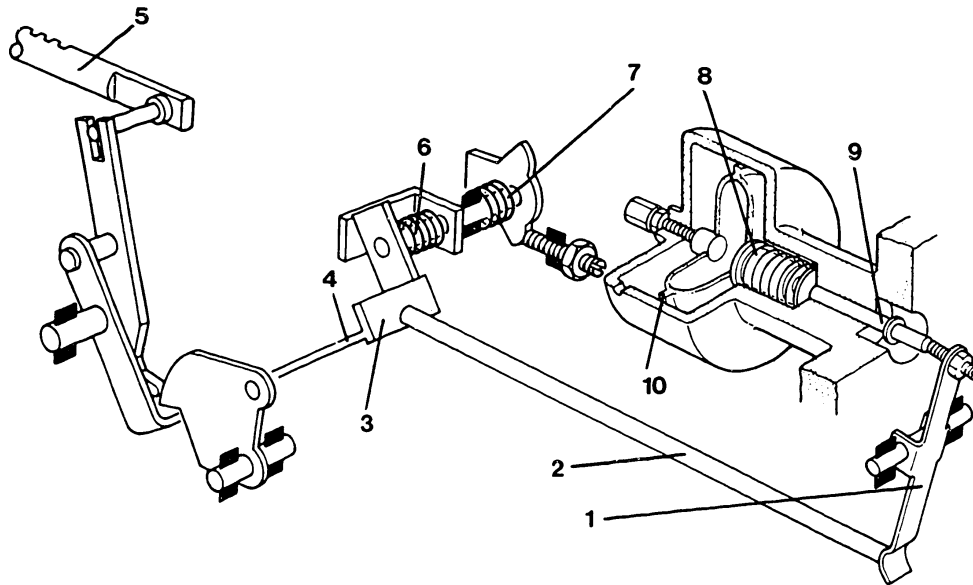
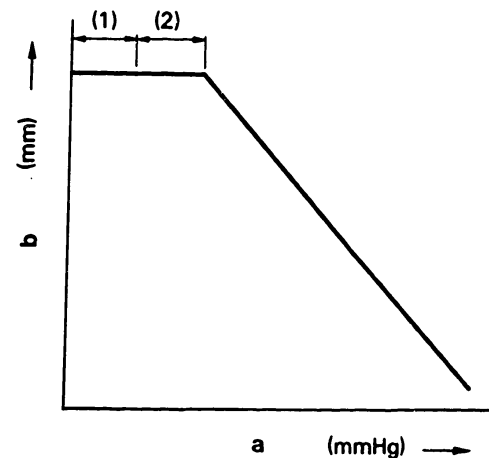

Fig. 53 Operation of "inverted-type" aneroid compensator
Fig. 54 Characteristic curve for aneroid compensator
- 2 = Pushrod (2)
- 9 = Pushrod (1)
Fig. 53 shows the operation of the "inverted-type" aneroid compensator when there is a small reduction in the atmospheric pressure. Because of the reduction in atmospheric pressure, the bellows expands and pushes against the set force of the aneroid compensator spring. Movement of pushrod (1) is transmitted through the inversion lever to pushrod (2). Pushrod (2) moves until it contacts the plate of the U-shaped lever. However, despite this movement, there is no change in the control rack position (non-reaction range (1) ... See Fig. 54).
The atmospheric pressure may drop further to a point where pushrod (2) pushes against the plate of the U-shaped lever, but the expansion force of the bellows is still not enough to overcome the force of the aneroid compensator spring and the cancel spring (which is installed on the load control lever shaft). As a result, the movement of pushrod (2) stops. This condition continues until the expansion force of the bellows overcomes the force of the aneroid compensator spring and the cancel spring. (Non-reaction range (2) ... See Fig. 54).